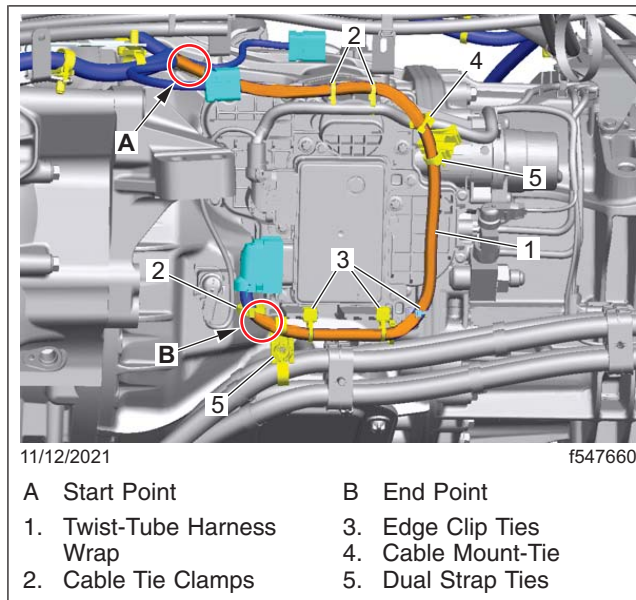

Fig. 3, Installing Twist-Tube Heavy Duty Wrap and Tie Straps
5. Install the twist-tube heavy duty wrap from start point A to end point B, as shown in Fig. 3, and secure it with electrical tape to the transmission control harness. Clip and route the transmission control harness using the dual strap ties at each location, shown in Fig. 3.